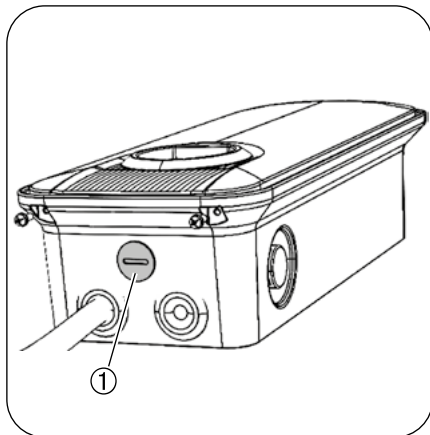
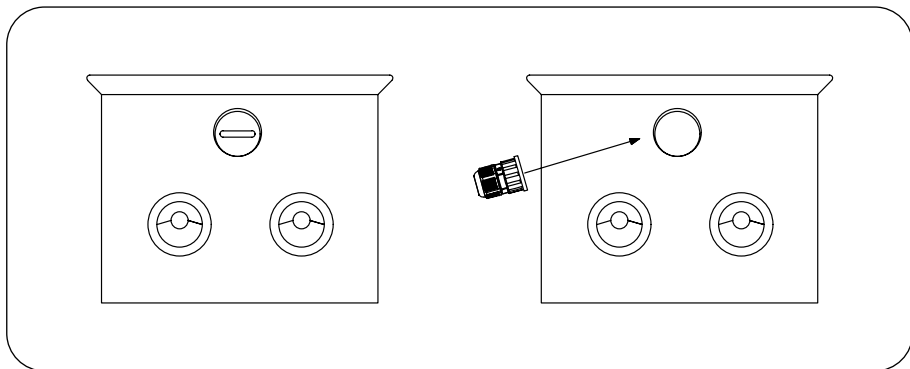

Figure 39
Figure 40
7. To connect the communication cable, remove the cap 1 (Figure 39) (inside there is a plastic nut that will have to be removed) and install the cable gland supplied in the kit (Figure 40). Fix and tighten the cable gland (6Nm) in order to restore the declared IP protection value.
9. Fix the front plate and tighten the screws in the lower part (Figure 39).